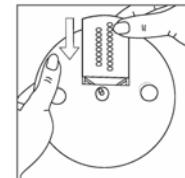

Fig. 10
1. Place the blade of your choice on the blade holder. Inserting the longer tab on the side of the blade first. (Fig. 10)